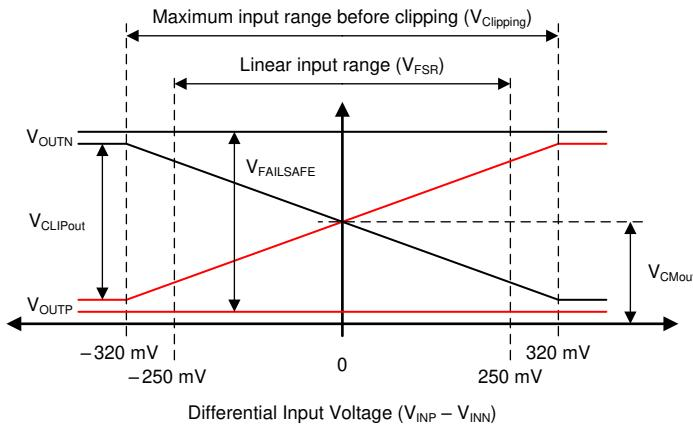

Figure 6-2. Output Behavior of the AMC3301
The AMC3301 offers a differential analog output comprised of the OUTP and OUTN pins. For differential input voltages ($V_{INP} - V_{INN}$) in the range from -250 mV to $+250$ mV, the device provides a linear response with a nominal gain of 8.2. For example, for a differential input voltage of 250 mV, the differential output voltage ($V_{OUTP} - V_{OUTN}$) is 2.05 V. At zero input (INP shorted to INN), both pins output the same common-mode output voltage V_{CMout} , as specified in the Electrical Characteristics table. For absolute differential input voltages greater than 250 mV but less than 320 mV, the differential output voltage continues to increase in magnitude but with reduced linearity performance. The outputs saturate at a differential output voltage of $V_{CLIPout}$ as shown in Figure 6-2 if the differential input voltage exceeds the $V_{Clipping}$ value.
The AMC3301 provides a fail-safe output that simplifies diagnostics on system level. Figure 6-2 shows the fail-safe mode, in which the AMC3301 outputs a negative differential output voltage that does not occur under normal operating conditions. The fail-safe output is active in two cases:
- The low-side does not receive data from the high-side (for example, because of a loss of power on the high side). In this case, the amplifier outputs are driven to the $V_{FAILSAFE}$ value that is shown in Figure 6-2.
- The high-side DC/DC output voltage (DCDC_OUT) or the high-side LDO output voltage (HLDO_OUT) drop below their respective undervoltage detection thresholds (brown-out). In this case, the low-side may still receive data from the high-side but the data may not be valid. The amplifier outputs are driven to the $V_{FAILSAFE}$ value that is shown in Figure 6-2.